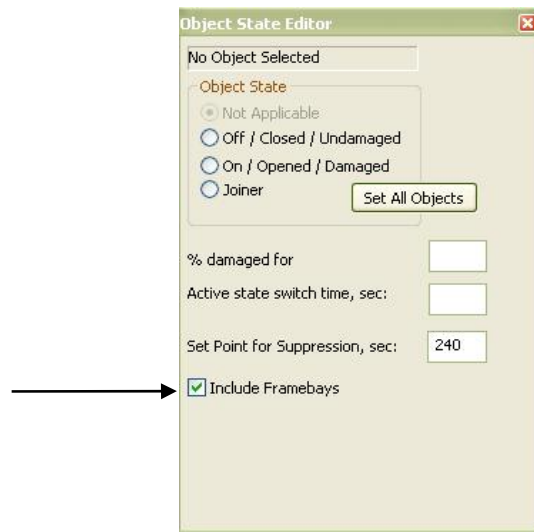

Figure 3-6 Including Framebays in the Object State Editor
Step 6: In the object state popup window (Figure 3-6), check the *Include FrameBays* box. This currently applies only to the Confined_Space.